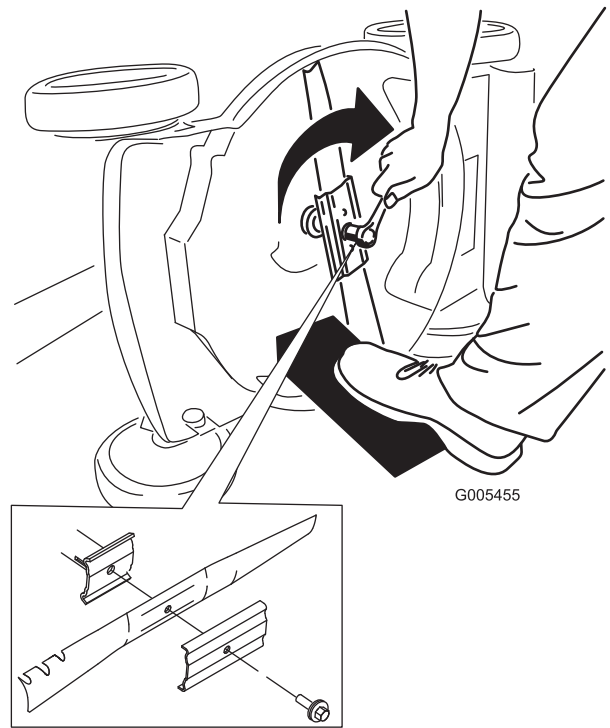

Figure 28
5. Install the new blade and all mounting hardware (Figure 28).
1. Turn the adjustment knob counterclockwise to loosen the cable adjustment (Figure 28).
2. Adjust the tension on the cables (Figure 28) by pulling them back or pushing them forward and then holding them in that position.